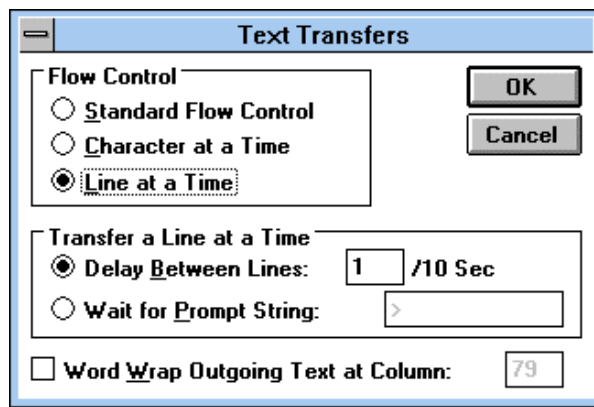

Figure A-5. Text Transfers Dialog Box
- a. Make the following selections using Figure A-5 as a guide.